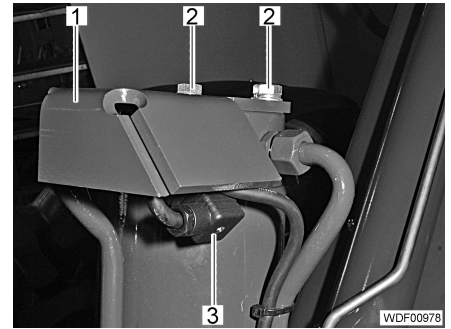

Fig. 211 Electrical plug
- Unscrew the 2 screws (Fig. 211,2) and remove the metal plate (Fig. 211,1).
- Unscrew screw on plug (Fig. 211,3), remove plug and protect the contacts (e.g. with protective cap).